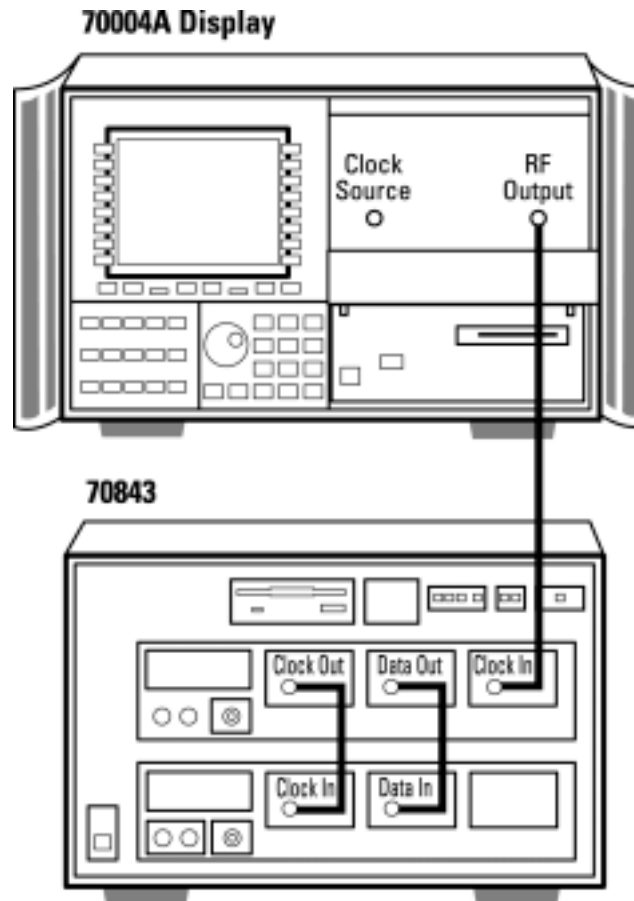

Figure 5-4 System Back-to-Back Connection
2. Connect the pattern generator DATA OUT and CLOCK OUT ports to the error detector DATA IN and CLOCK IN ports respectively. Terminate any unused ports with 50 Ω terminations (Agilent part number 1250-2121). See Figure 5-4 on page 5-8. Ensure the Agilent 70843 error performance analyzer and Agilent 70004A display rear-panel HP-MSIB ports are connected.